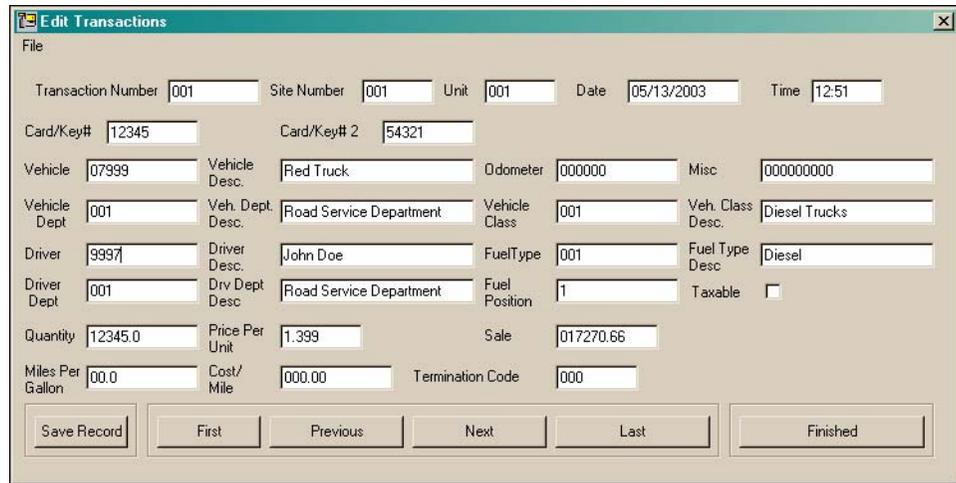

Figure 28: AFC Editing a Transaction
1. From the AFC Administrator main screen (gas station), select **Transactions > Edit**. This will take you to the EDIT TRANSACTION window (*Figure 28 on page 62*).